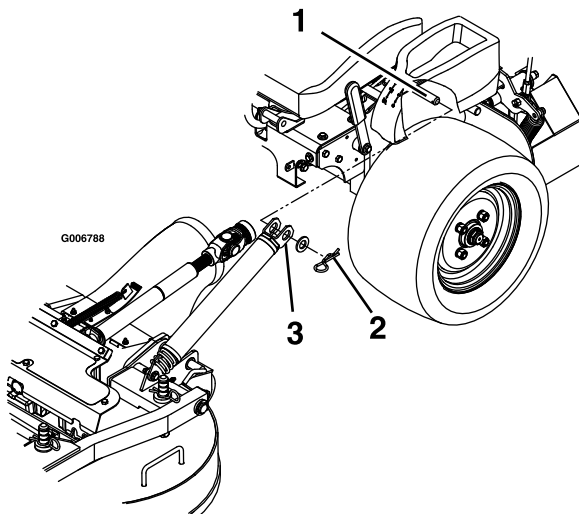

Figure 69
3. Remove hairpins and washers at the top of the deck lift assist spring on each side of the unit (Figure 69).
8. Install the springs onto the spring anchor pins under the left and right consoles and secure with a washer and hairpin (Figure 69).